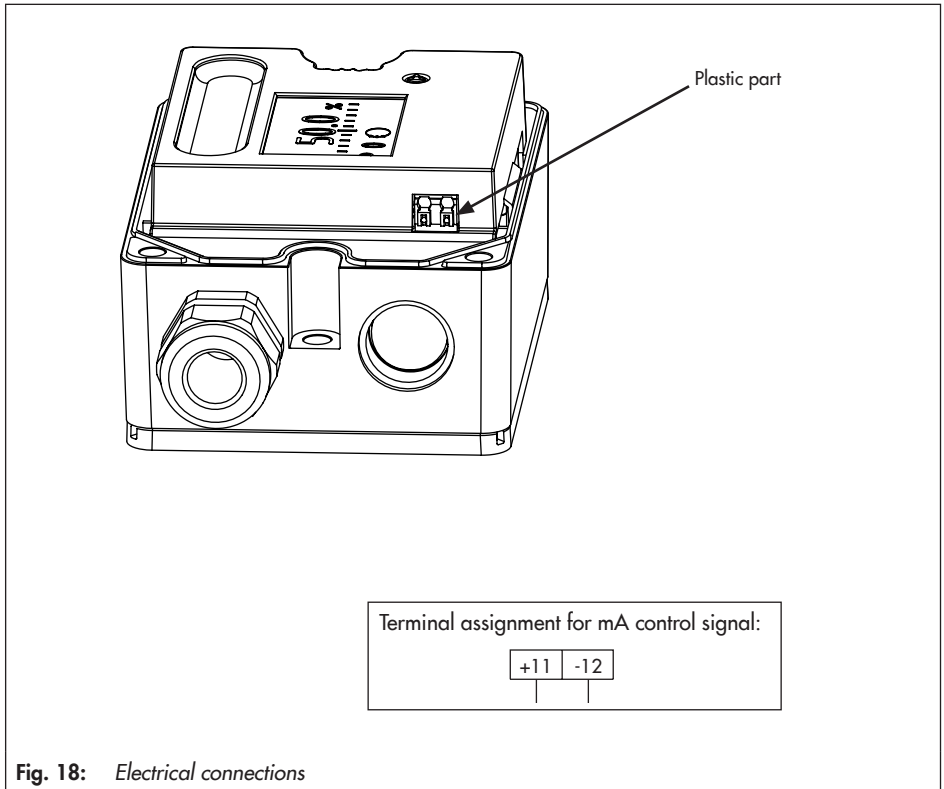

Fig. 18: *Electrical connections*
- To unlock the cage clamp terminals: place a slotted screwdriver on the plastic part (Fig. 18) and lightly push it into the terminal block.
- Connect the electrical power (mA signal) as shown in Fig. 18.